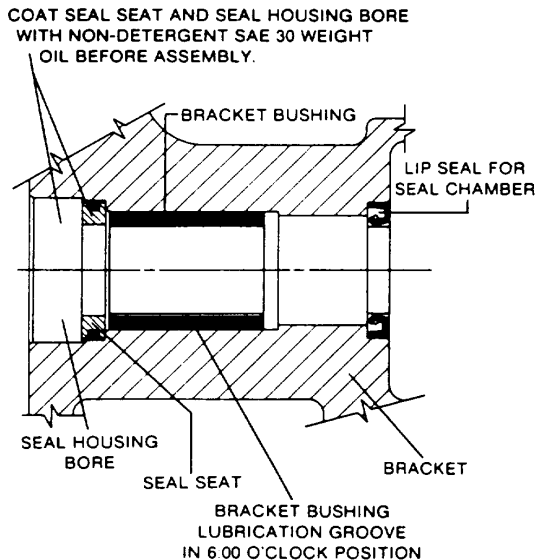

FIGURE 11.
Synthetic rubber bellows mechanical seals, the style shown in Figures 11, 12, & 13, may be installed as alternate to the standard Teflon seal as the application warrants. These seals are dependent upon friction to drive them and, therefore, there are no set screws to tighten. No spacer is used on Model "K" between rotor and synthetic rubber bellows seal.
2. Start seal seat in seal housing bore, refer to Figure 11. If force is necessary, protect seal face with a clean cardboard disc and gently tap it in place with a piece of wood.